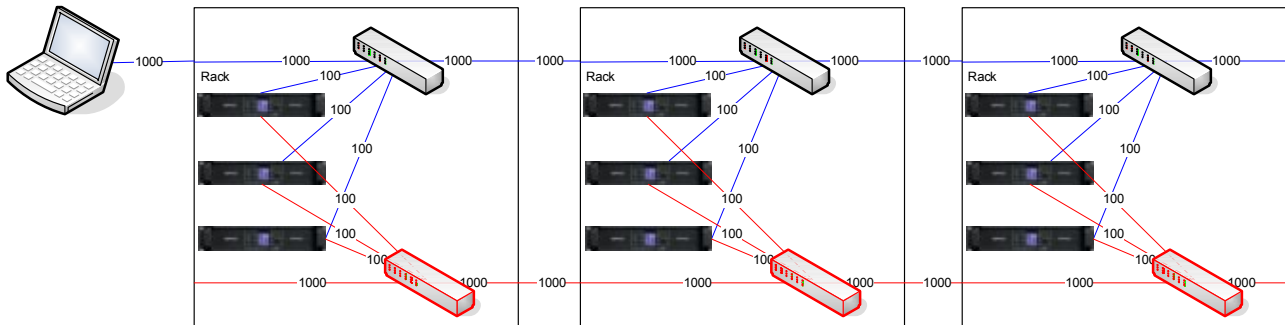

Figure 5.2.5: Dual daisy chain switch topology
This is a hybrid that combines the ease of wiring of the daisy chain topology with the 100% avoidance of SPF issues in the dual redundant star/spoke configuration (figure 5.2.5). It is simply two “daisy chained switch” networks in parallel: the primary and secondary networks are connected independently using the dual redundant mode in the PLMs.
- ▶ Manually disconnect from the “blue” network layer and connect to the “red” network layer instead if one or more PLMs are inaccessible via the blue network (see figure 5.2.5). This can be done easily by using a simple hardware switch box.